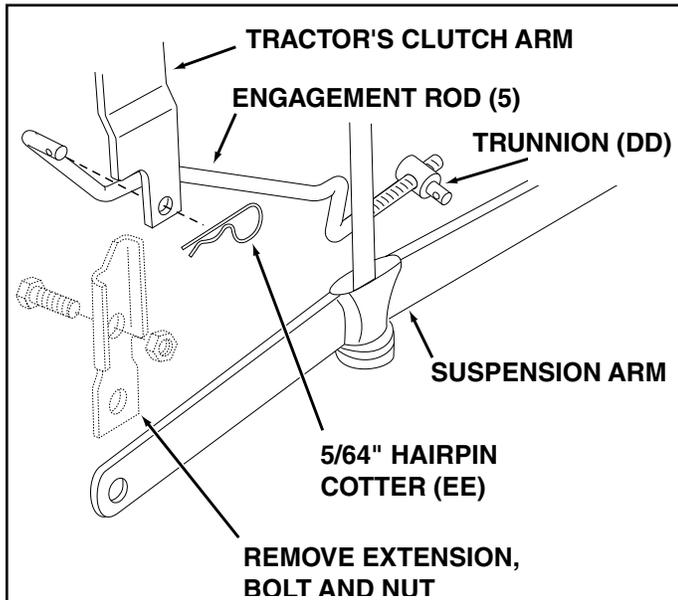

FIGURE 29 RIGHT SIDE VIEW
STEP 29: (SEE FIGURE 29)
- Screw the trunnion (DD) onto the end of the snow thrower engagement rod (5).